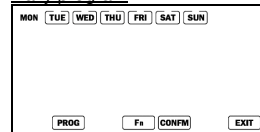

Fig1.
2. Press weekday to select the program day. Selected weekdays will have no \square surrounded(see Fig1).